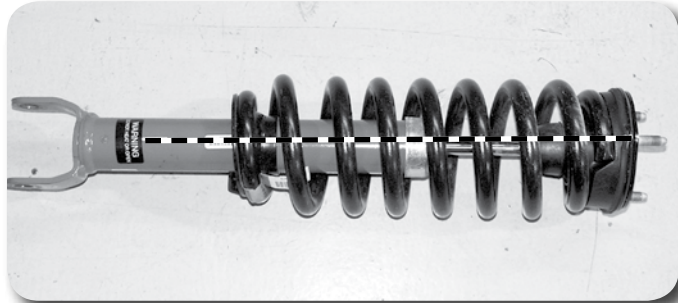

Figure 17
45. These trucks vary in ride height from the factory. In order to give a close to level stance after the installation, preload spacers are included to reduce the rake. Install the spacers if a more level stance is desired. Skip to step #49 if a slightly reduced factory rake is desired (no preload spacers = 1" less rake, preload spacers installed = 1-5/8" less rake). Place indexing marks on the strut body, strut cap and upper coil seat **Figures 17, 18** for realignment of the components when the strut is reassembled.